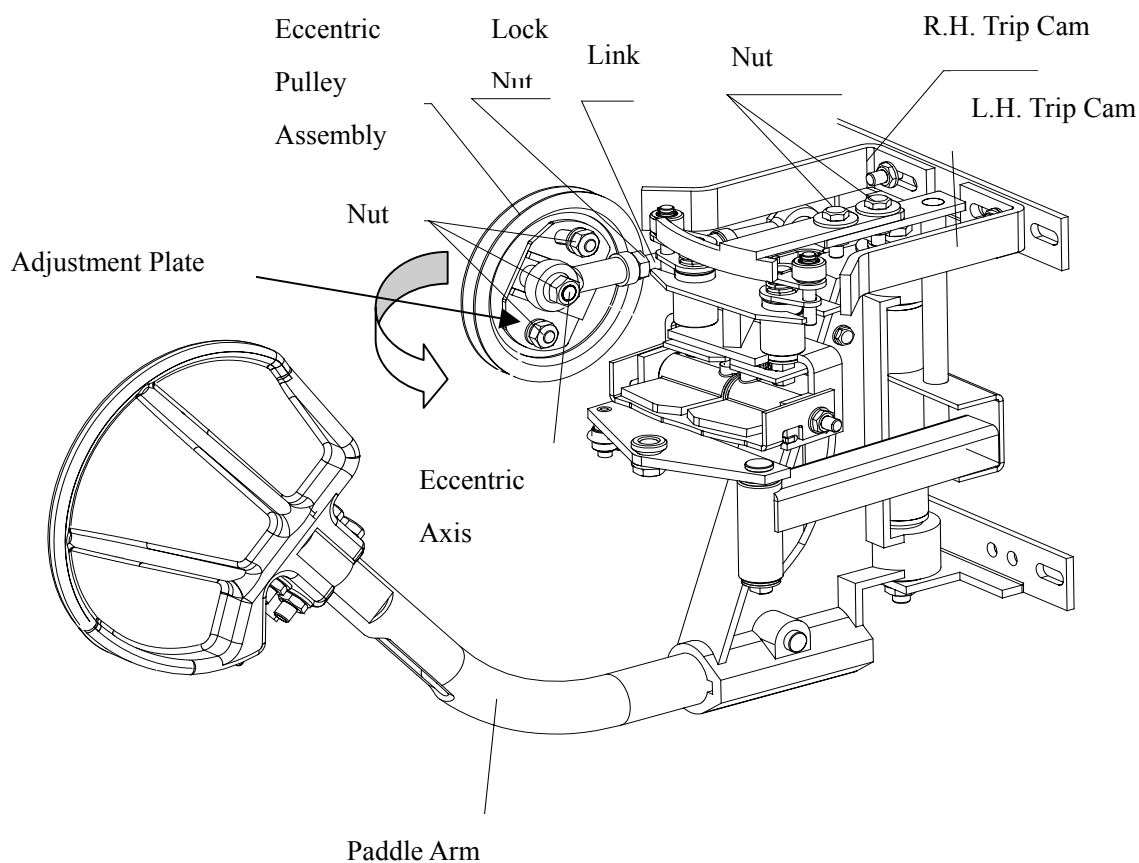

Fig.6
2. Remove the nuts from the eccentric axis. (See fig. 6)
1. Fix one end of the link onto the eccentric axis (See fig. 6), and revolve the rudder driving pulley (eccentric belt pulley wheel) while observing the movement of the rod assembly (ball sense rod).
2. Adjust the length of the link to have the rod assembly (ball sense rod) swing on the basis of the central line symmetrically. Then fix the fastening nuts. (See fig. 6)
1. Turn the crank pulley to make the rod assembly (ball sense rod) be situated in the oscillation center of the bracket plate. (See fig. 6)
g. Adjustment of Trip Arm (See fig. 6)